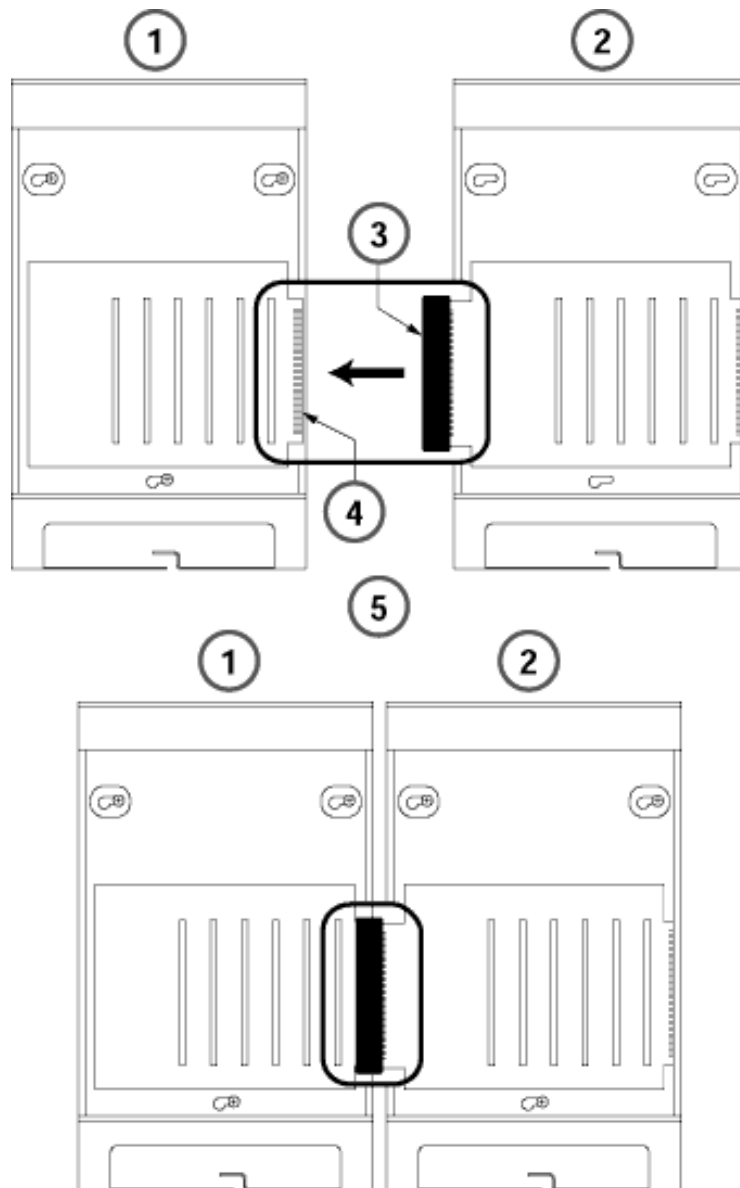

Figure 2-5. Connecting the Carriers
4. Slide the expansion carrier to the left, align the backplane connectors and seat the expansion carrier with the basic carrier. Make sure the connectors are seated securely and completely as shown in Figure 2-5.
5. Slide the expansion carrier to the left, align the backplane connectors and seat the expansion carrier with the basic carrier. Make sure the connectors are seated securely and completely as shown in Figure 2-5 on page 2-8.